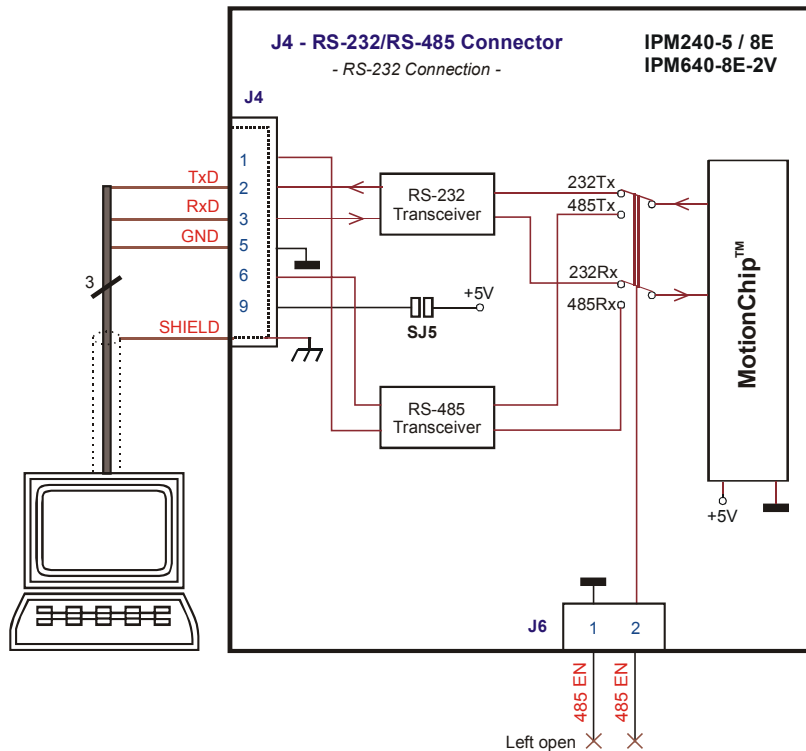

Figure 5. RS-232 connection diagram
2. Connect the IPM240 – 5E drive to the PC computer as you can see in the Figure 5